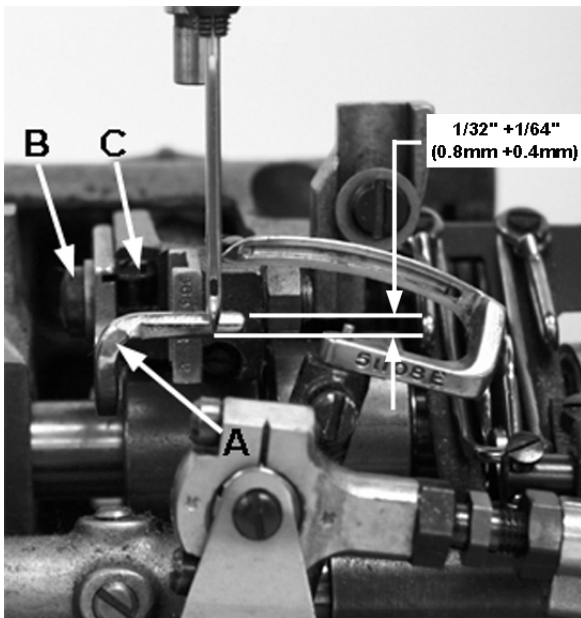

Fig 13
Rotate handwheel in operating direction to position looper point to just enter the scarf of needle. At this time the needle guard (A, Fig 13) should be at its extreme end of forward travel. Set the guard front to back as close as possible without touching the needle. Guard should be set as low as possible, yet have its vertical face approach above the needle point $\frac{1}{32}'' + \frac{1}{64}''$ (0.8mm + 0.4mm). To move the needle guard forward or backward, loosen the screw (B), move needle guard as required, and retighten screw. To raise or lower needle guard, loosen screw (B), and turn screw (C) clockwise to lower needle guard or counterclockwise to raise it. Retighten screw (B) after guard is properly set.